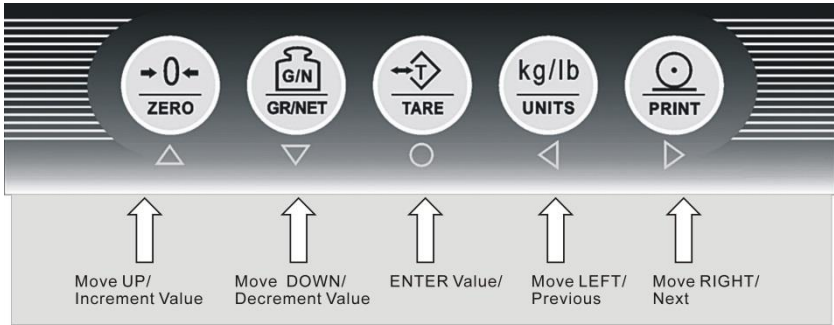

Fig. 4.1 Front Panel Configuration of 805TS
Fig.4.1 and Fig.4.2 are the indicators' front panel configuration that will indicate the LED/LCD indicator lights/symbols and keypad configurations. Signs or symbols under the keys are for configuration operation use (refer to Section 9 for details).
▶, ◀ are for moving forward and backward while ▲, ▼ are for increasing and decreasing the digit value. Upon completing Input Item Code, press the ○ key if the stored Item Code is not 00. Item Code of the current count items is then stored and the keypad returns to normal operating function as shown in Fig. 4.1 (805TS series) and Fig.4.2 (805BS series).